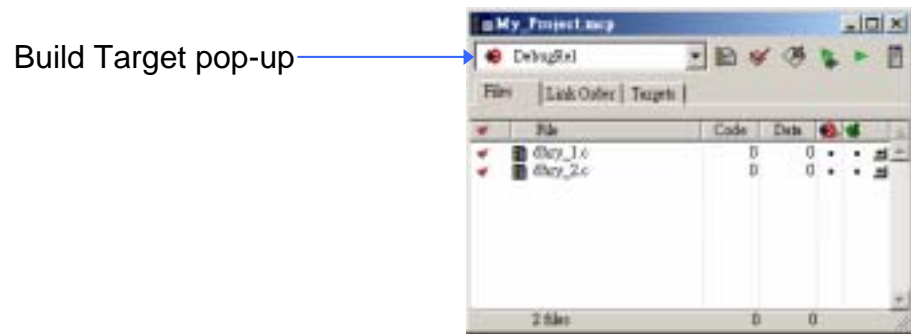

Figure 11. Source files in Files view.
5. Ensure that the **Files** tab is selected in the **project window**. The project window displays all the source files in the project. (Figure 11).
- If you close CodeWarrior IDE after the fifth step, the files added to My_project.mcp are automatically saved without your indication. Double click on My_project.mcp, the CodeWarrior IDE starts and displays the project window as it did on the fifth step (Figure 11).
1. Ensure that the **DebugRel** build target is currently selected. By default, the DebugRel build target is selected when you create a new project based on the ARM project stationery. The currently selected build target is displayed in the **Build Target** pop-up menu in the project toolbar (Figure 11).
1. Select **Release** from the **Build Target pop-up menu** (Figure 11) to change the current build target.
1. Select the build target you want to build (Figure 11). For this example, select the `DebugRel` build target.
- Select the build target you want to build (Figure 11). For this example, select the *DebugRel* build target.